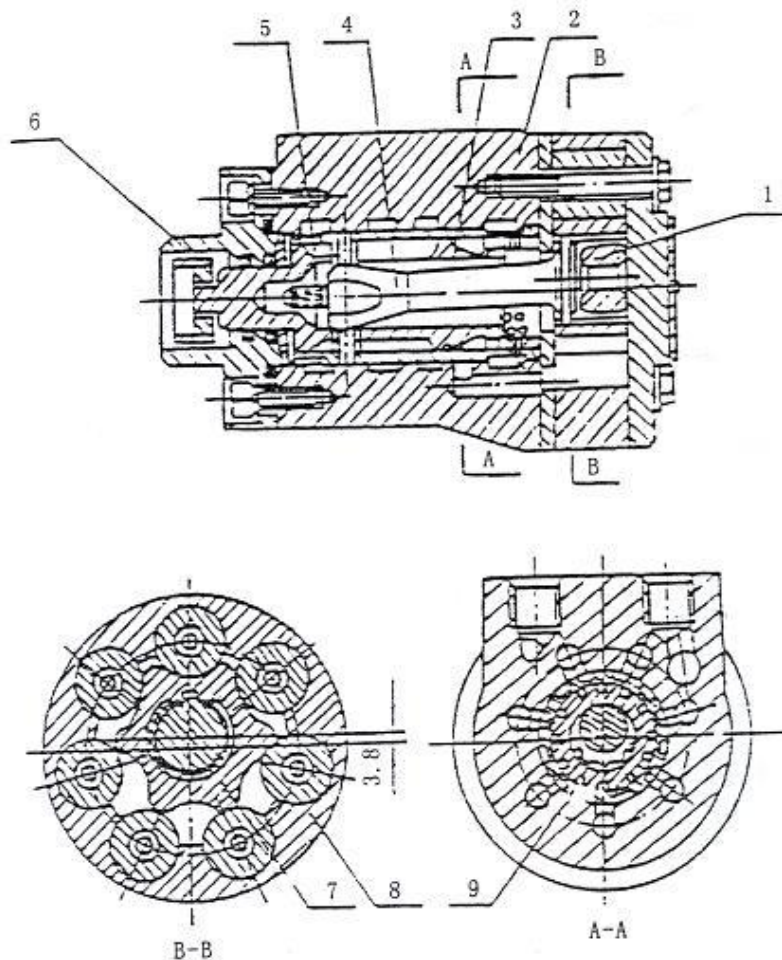

Figure 2-7 Steering control device
The steering system (Figure 2-7) is mainly composed of a steering wheel, steering shaft, steering device, steering oil pump and steering bridge. The steering shaft is connected to the steering gear through the universal joint, and the connecting shaft is connected to the steering wheel through the universal joint. The steering string can be tilted to the appropriate position through the handle (A). The steering axle is installed on the tail frame at the rear of the frame, and there is a steering joint on the left and right respectively. The steering joint is driven by the piston rod of the steering cylinder through the connecting rod to deflect the steering wheel and realize steering.